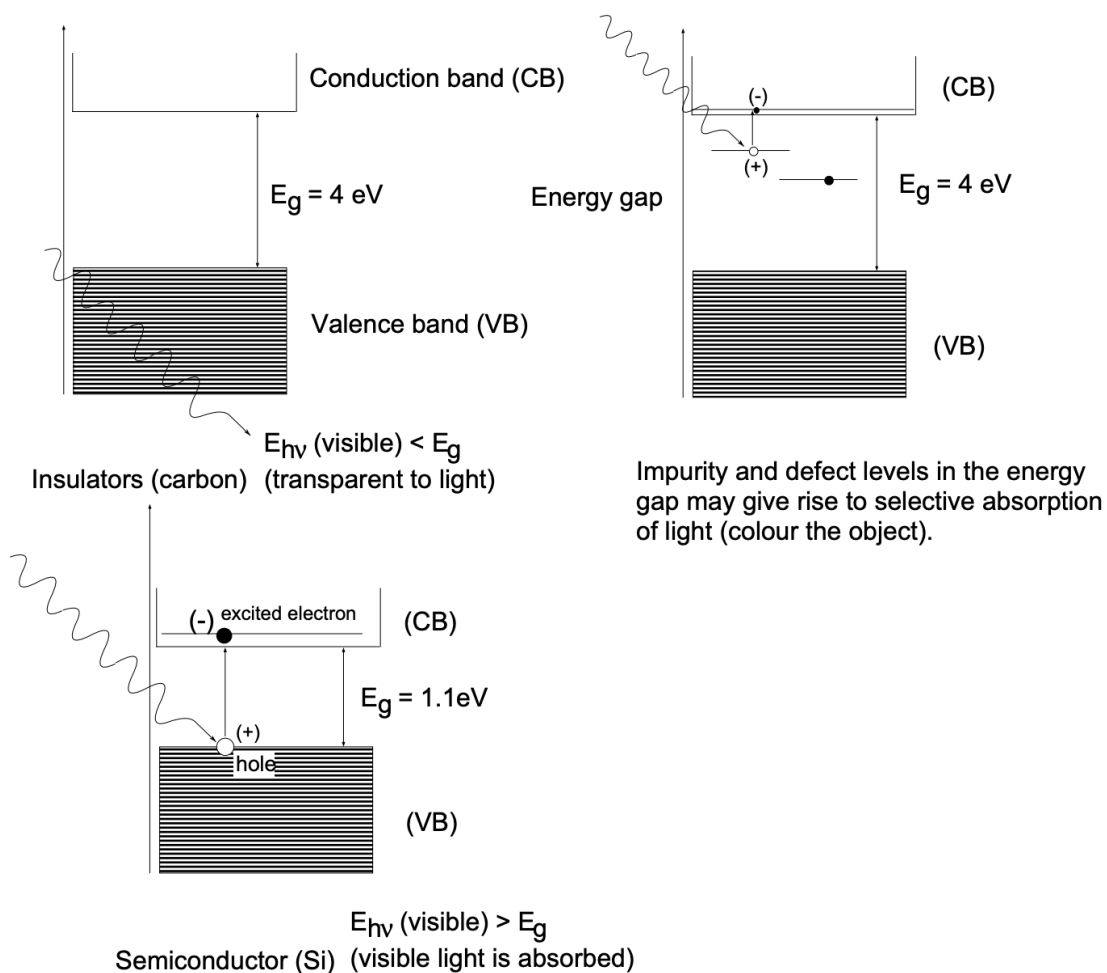

Fig. 7 Optical behavior of insulators and semiconductors
*Insulators*, generically, are materials with very high resistivity (see Table I), comprising glasses, polymers, refractories, composites, liquids and gases. In the present context, an insulator is a molecular crystal, such as diamond (C) or sapphire, with a band gap ( $E_g$ ) in excess of 4eV (arbitrary value). Generally such materials will not conduct electricity since their valence band is filled and the energy required to transfer electrons from the valence band to the empty conduction band is far in excess of both the thermal energies at room temperature and the energy provided by radiation of the visible spectrum (2eV). Therefore, insulators (in single crystal form) are normally transparent (colorless); however, if light is excessively or totally scattered at internal heterogeneities (such as grain boundaries), they may be translucent and even opaque. It should also be recognized that impurities ( $Cr^{3+}$  in  $Al_2O_3$ ) or particular point defects (color centers) may impart a color to the transparent insulator crystals. The color arises because of partial absorption of white light and selective transmission of the other portions of the visible spectrum.
*Semiconductors*: The conventional semiconductors, silicon (Si) and germanium (Ge), have a band gap ( $E_g$ ) of 1.1 and 0.7eV respectively and therefore absorb visible radiation; they are opaque (fig. 7). Considering the statistical nature of the thermal energy distribution in the solid matrix (Maxwell-Boltzmann), a significant number of electrons in the valence band will, at room temperature, acquire sufficient energy to cross the existing energy gap and thus provide for *semiconductivity*. The conductivity will therefore increase with temperature, contrary to metallic systems, until electron scattering effects, due to increased lattice vibrations (which decrease the mobility of electrons), begin to dominate.